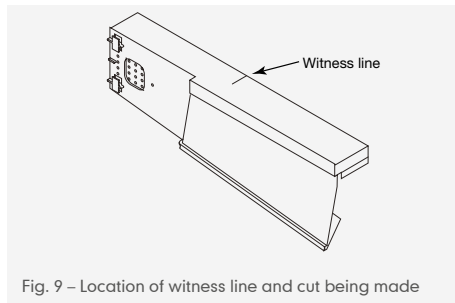

Fig. 9 – Location of witness line and cut being made
- 10 When using medium format tiles, verge unit distortion can occur when the units are slid into position beneath the next tile course above. This distortion can be eliminated by making a small cut (Fig. 9) along the witness line, as shown.